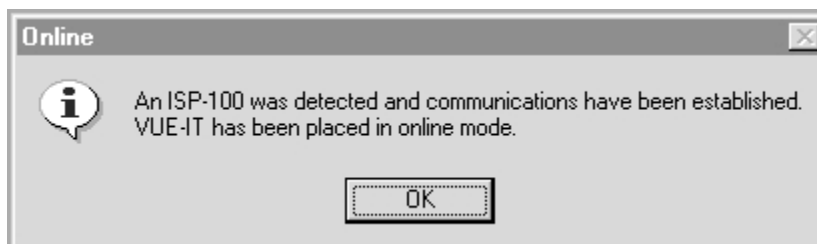

Figure 5-5 ISP-100 detected dialog.
8. Wait for the HOST LED to light yellow and the rest of the LEDs to light green. At this point a window similar to the one in Figure 5-5 will appear. The ISP-100 is now ready for use.